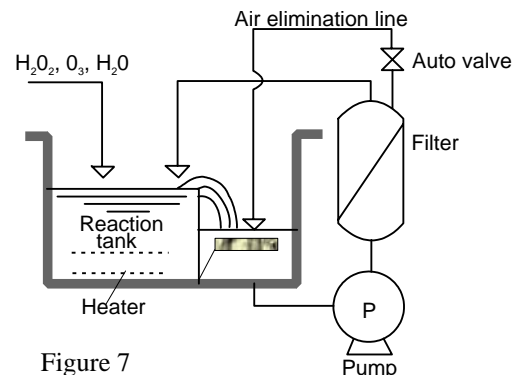

Figure 7
- Regardless of the occurrence of air locking, continuous automatic air elimination is executed in the entire system. For example, the air elimination process is activated every 2 minutes after the start-up of the pump by opening the auto valve for 10 seconds. (Figure 7)